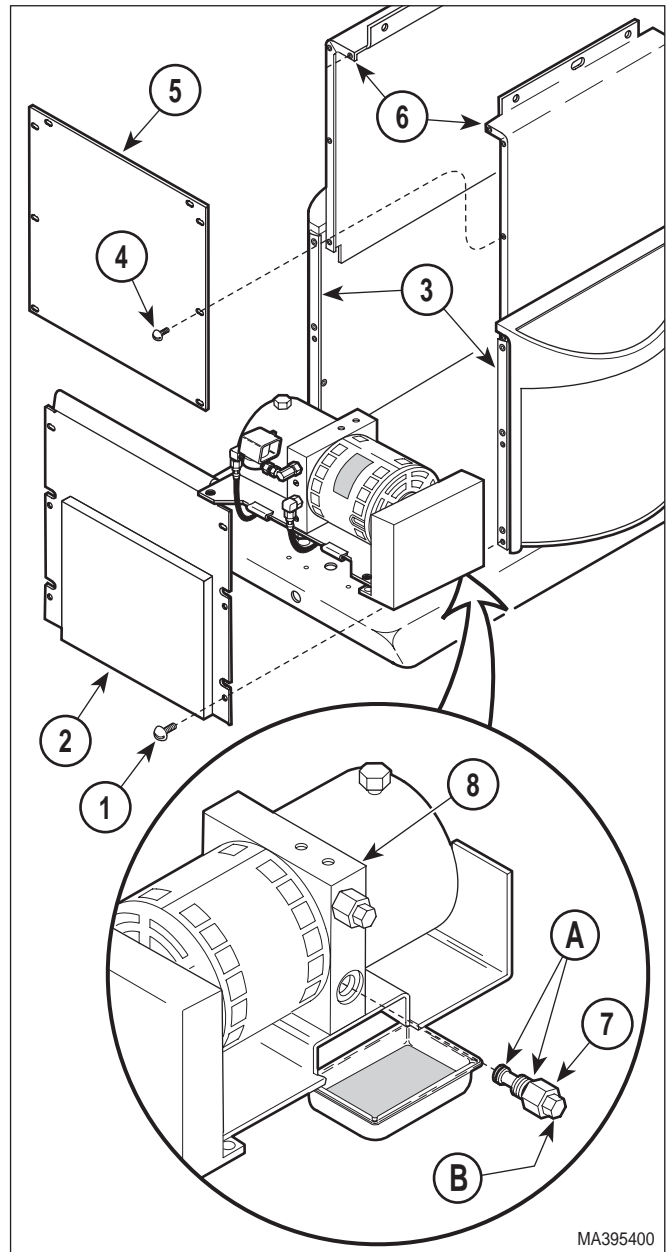

Figure 4-6. Up Functions Relief Valve Removal / Installation
- (1) If possible, raise TABLE UP function all the way up.
- (2) Unplug table power cord from outlet.
- (3) Remove motor cover assembly (Refer to para 4.2).
- (4) Remove four screws (1, Figure 4-6) and back outer shroud (2) from left and right hand outer shrouds (3).